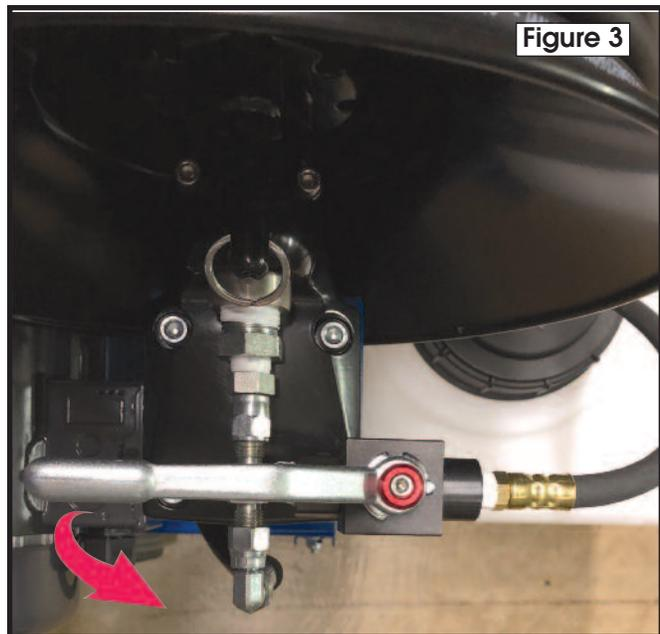

Figure 3
3. Close the Bypass valve before the hose reel to help prime the main pump (see Figure 3).